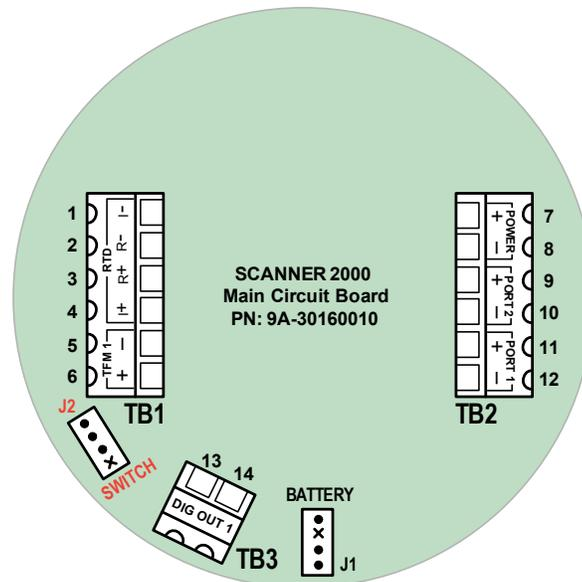

Figure A.19 - J2 receptacle for installing the seal kit jumper
- b. Locate the J2 receptacle labeled "SWITCH" and insert the jumper into the header. (See Figure A.19, page A-15)